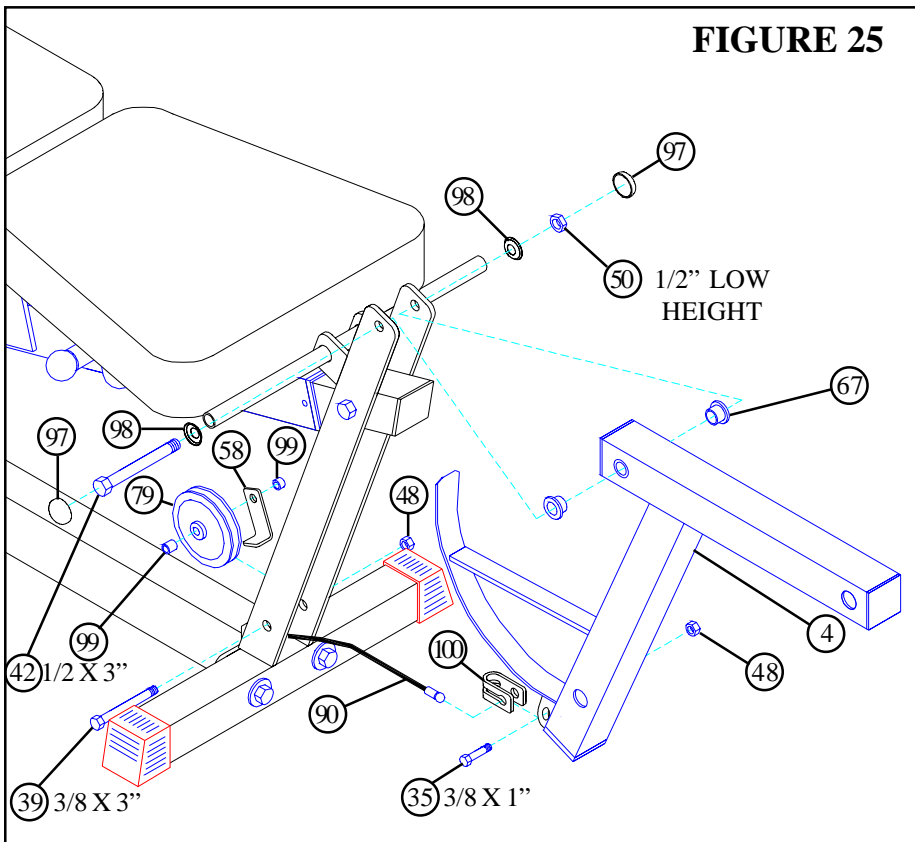

FIGURE 25
- Assemble one 3-1/2" PULLEY (79) to the LEG SUPPORT (15) using one 3/8 X 3" BOLT (39), two 3/8 X 1/2" SPACERS (99), one CABLE RETAINING CLIP (58) and one 3/8" LOCK NUT (48). (**NOTE: Make sure LEG EXT. CABLE (90) is running under the PULLEY.**)
- Insert two 1/2" FLANGE BEARINGS (67) into the LEG CURL/EXTENSION (4).
- Assemble the LEG CURL/EXTENSION (4) to the BENCH FRAME (15) using one 1/2 X 3" (42), two BOLT COVER CAPS (97), two BOLT COVER WASHERS (98) and one 1/2" **LOW HEIGHT** LOCKNUT (50). (**NOTE: Securely tighten, then back nut off 1/4 turn to allow the LEG CURL/EXTENSION (4) to rotate freely.**)
- Assemble the ball end of the LEG EXT. CABLE (90) to the KEYHOLE CLEVIS (100) as shown in FIGURE 25.
- **SECURE** the KEYHOLE CLEVIS (100) to the tab on the LEG CURL/EXTENSION (4) using one 3/8 X 1" BOLT (35) and one 3/8" LOCK NUT (48) as shown in FIGURE 25. (**NOTE: Do not overtighten! Keyhole clevis should rotate freely.**)